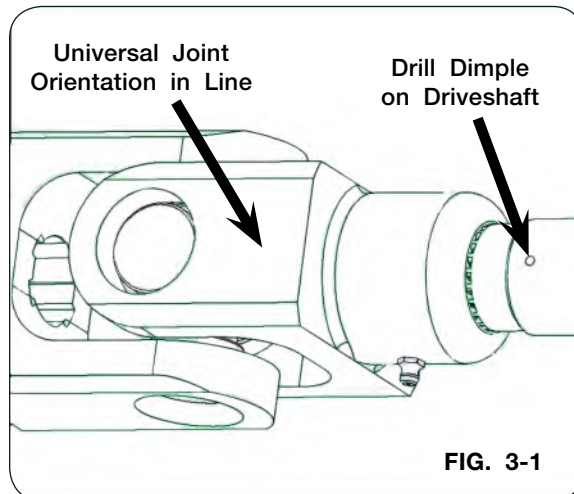

FIG. 3-1
1. Slide driveshaft down into the universal joint attached to the gearbox until the end of the shaft extends into the universal joint about 2 3/8". Ensure universal joint and driveshaft splines completely engage. Verify the hitch end for adequate length for driveline assembly to connect. (FIG. 3-1 and 3-3)
3. With bearing mounting hardware loosely tightened, drill a setscrew dimple in the driveshaft by going through the bearing setscrew threaded hole to dimple the driveshaft being careful to not damage threads. Drill the dimple to a depth that setscrews are flush with the bearing prior to applying thread locker and installing setscrews. (FIG. 3-1)
4. For alignment of the yoke, the orientation of the universal joint at the gearbox must be in line with the driveshaft drill dimple when the driveline assembly is attached. (FIG. 3-1, 3-2, and 3-3)